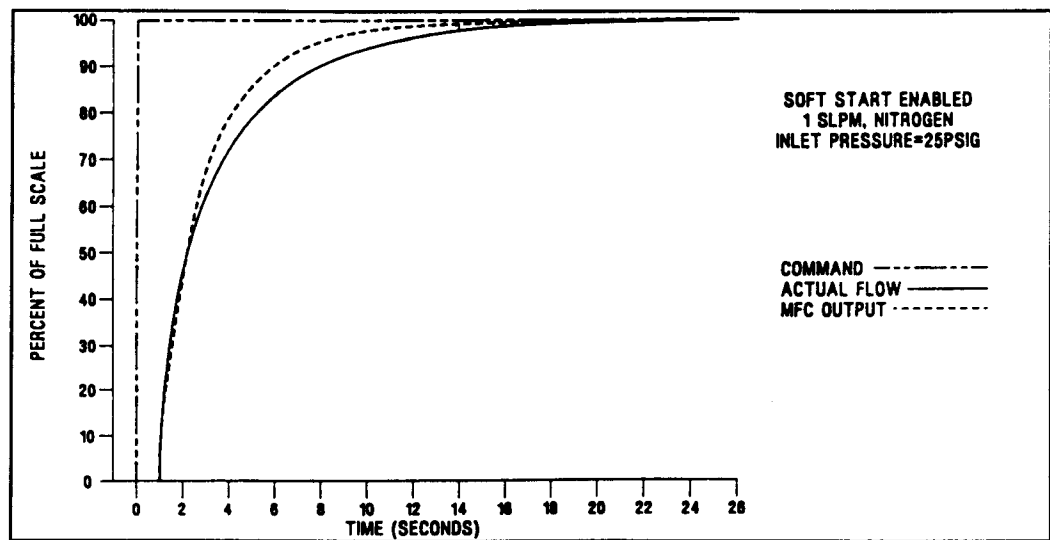

Figure 1-2. Command Steps, Soft Start Enabled
- SOFT START provides a flow ramping function which slows down the introduction of the process gas for those processes which cannot tolerate rapid flow transition. Refer to Section 2.6 and Figure 1-2.